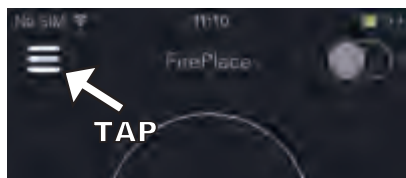

Fig. 1 Tap the side menu button (Top left)
3. Tap the side menu button (Fig. 1)